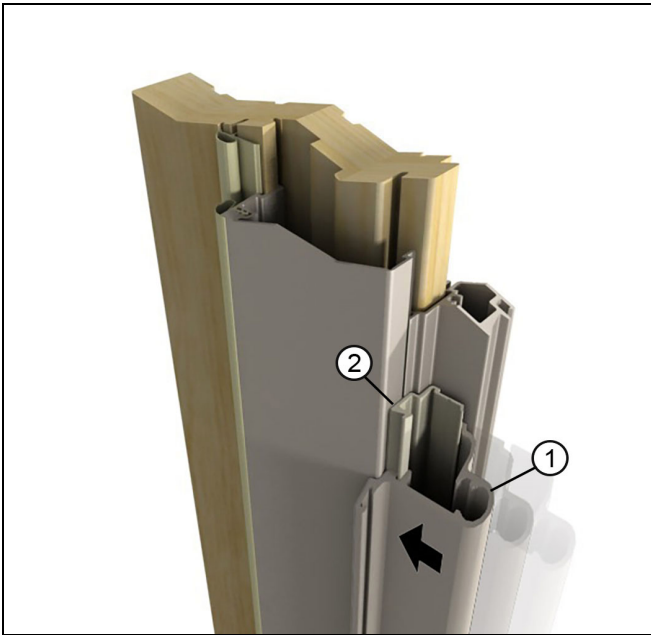

Figure 8 Screen panel removed for illustrative purposes.
2. With the screen panel in the closed position, engage the hinge z-bar to the jamb adapter by firmly tapping along the full length of the stop on the z-bar with a soft rubber mallet and wood block. A “snap” will be heard when the z-bar is properly seated into the jamb adapter. See Figure 8.